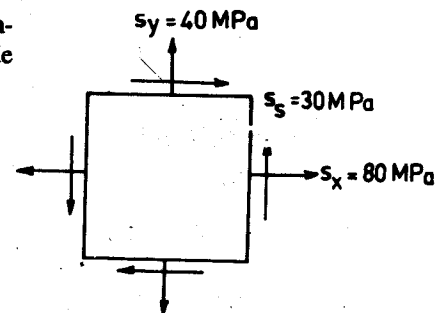

Fig. 31
68. Fig. 31 shows the stresses acting on a point in a structural member. The radius of Mohr's circle to determine the magnitude and orientation of the principal stresses would be equal to